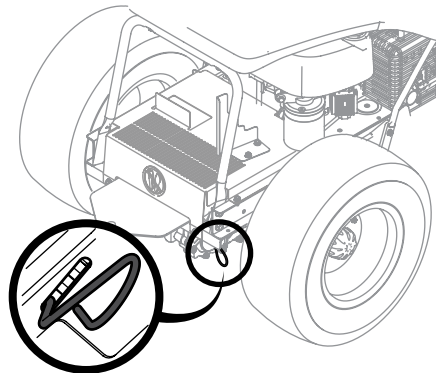

Figure 2-1
- Engage the transmission bypass rod to move the tractor manually without starting it. The transmission bypass rod is located on the inside of the right tire near the rear of the tractor. Engage the bypass rod by pulling out and down. See Figure 2-1.
- Disengage the bypass rod by lifting up and allowing the rod to move back in after moving the tractor. See Figure 2-1.